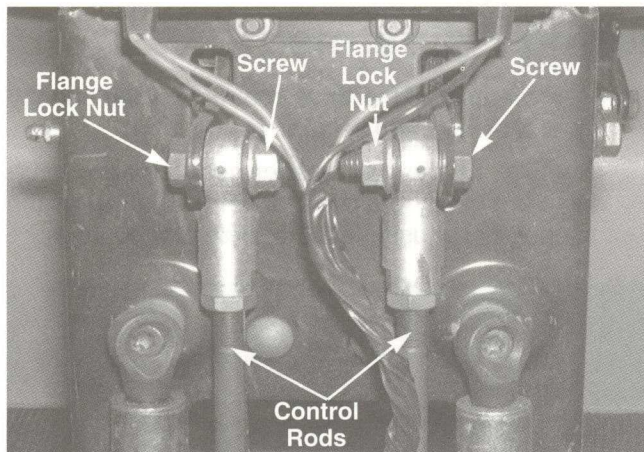

FIGURE 5.
10. Remove the hex cap screw and flange lock nut securing each control rod assembly to the upper left and right bellcrank assemblies using a 9/16 socket and 9/16 wrench. See figure 5.